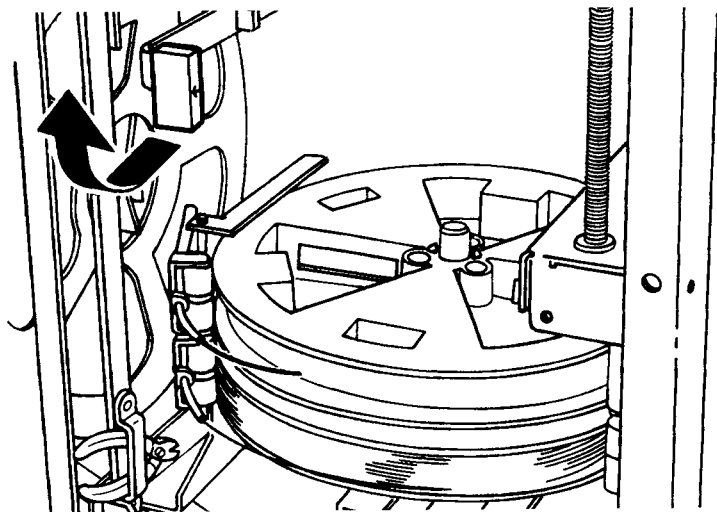

Figure 4-23 Stitcher head release handle
4. Pull the green stitcher head release handle forward and up until it latches into place, as shown in figure 4-23.
- The wire cutter tool needed to perform this procedure is located next to stitcher spool B, as shown in the lower left corner of figure 4-23.